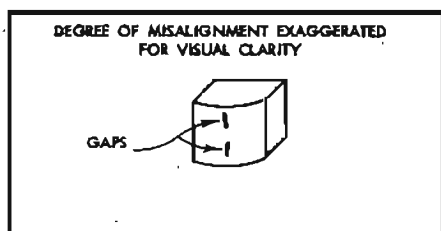

Fig. 6. Relative misalignment of the gaps of a stereo head.
In the case of stereo heads, it is important to realize that it is possible for the two gaps to be out of alignment with each other, as shown in Fig. 6. Ideally, the two gaps should be in a perfectly straight line. If they are not, as sometimes happens, then it is not possible to obtain correct azimuth alignment on both tracks. Aligning one gap automatically throws the other gap out of alignment. Else one has to find a compromise position where both tracks are equally affected. The best solution is to replace the head, unless the degree of misalignment is so slight as not to cut response more than two or three db at the upper end of the audio range.
Though it seems a drastic step, all the high-voltage circuitry can be removed. Indeed when the performance of the valve and transformer is being considered, the whole of the valve circuit—valve, bias resistor and its shunt capacitor, grid capacitor, and grid resistor—can be removed and replaced by a single resistor having a value equal to the slope resistance r_a of the valve under its working condition. However, the valve is an active device in that it produces signal power and thus we have to add to our slope resistance r_a a generator that we can assume to produce the same power as the valve. When this is done the whole of the circuit inside the dotted box can be replaced by the two devices in (B) of Fig. 6, a resistor r_a and a generator, the combination appearing as a power generator having no resistance in series with a resistance equal to the valve slope resistance.
Fig. 6. Practical single-ended output circuit, (A), and its equivalents; (B), simplest form; (C), at low frequencies; (D), between 150 and 4000 cps; (E), final equivalent circuit at frequencies below 150 cps.
as the same resistance connected across the primary winding, at least at the low-frequency end of the audio range. The practical circuit has now been reduced to the much simpler circuit of (C) in Fig. 6 the transformer and speaker voice coil being reduced to a resistor R_L and an inductance L_p in parallel, the inductance being that of the transformer primary winding measured at some low audio frequency with the secondary winding open circuited.
As the generator frequency is increased the reactance of L_p will increase (being directly proportional to frequency) until at some higher frequency the reactance will be much higher than R_L . At, and above this frequency, the inductance L_p can be removed for it has no effect on circuit performance and the circuit then consists of the generator and two resistors, and R_L . At these frequencies the equivalent circuit r_a will be that of (D) in Fig. 6, the output voltage will clearly be
a flaw in this reasoning. At those low frequencies where the reactance of L_p is low compared to R_L , the total circuit impedance will fall and the current drawn from the constant-voltage generator will rise and thus tend to maintain constant the voltage across R_L and L_p . A detailed analysis shows that this compensating effect can be exactly allowed for by assuming that the generator resistance has a value lower than the slope resistance r_a and in fact is equal to the valve slope resistance r_a and the load resistance R_L in parallel. The equivalent circuit then reduces to that of (E) in Fig. 6 and has the same voltage/frequency relation for V_o/V_i as the appreciably more complex circuit of (A) in Fig. 6, an effective demonstration of the advantages of equivalent circuits.
In a simple circuit such as that of (E) in Fig. 6, it is fairly easy to see that V_o will tend to approach V_i as the reactance of L_p becomes large relative to the resistor R_p . The reactance $X_L = 2\pi f L_p$ is directly proportional to frequency and thus it is clearly going to be difficult to maintain X_L large compared to R_p down to such very low frequencies as a few cycles per second. When transformers are used there is no alternative to accepting a frequency response that falls away at low frequency, but the frequency at which the falloff commences can be moved down to any desired fre-